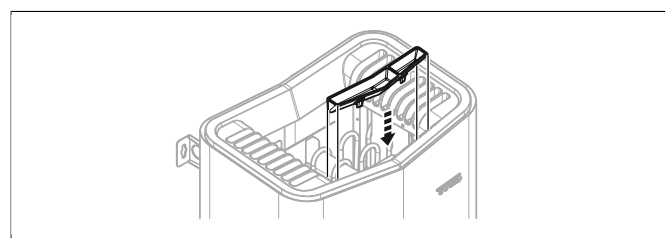

Figure 9: Installing the fragrance holder/air humidifier
8. Attach the herb bowl/air humidifier (see **Figure 9**, Page 4).